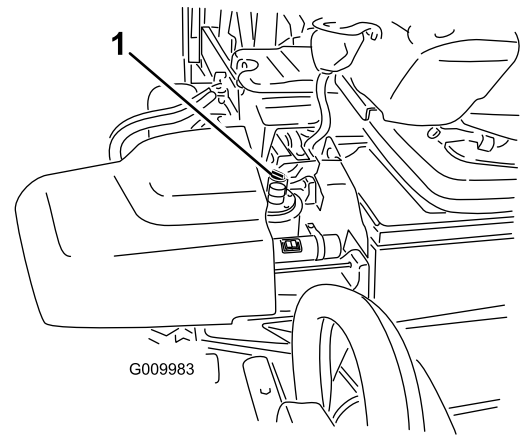

Figure 17
3. Clean the area around the filler neck and cap of the hydraulic tank (Figure 17). Remove the cap from the filler neck.